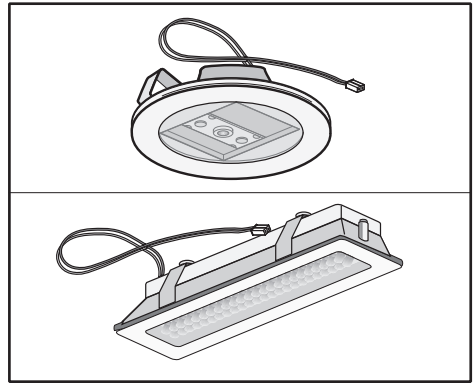

Fig.7
• Replacing LED lamps (Fig.7):